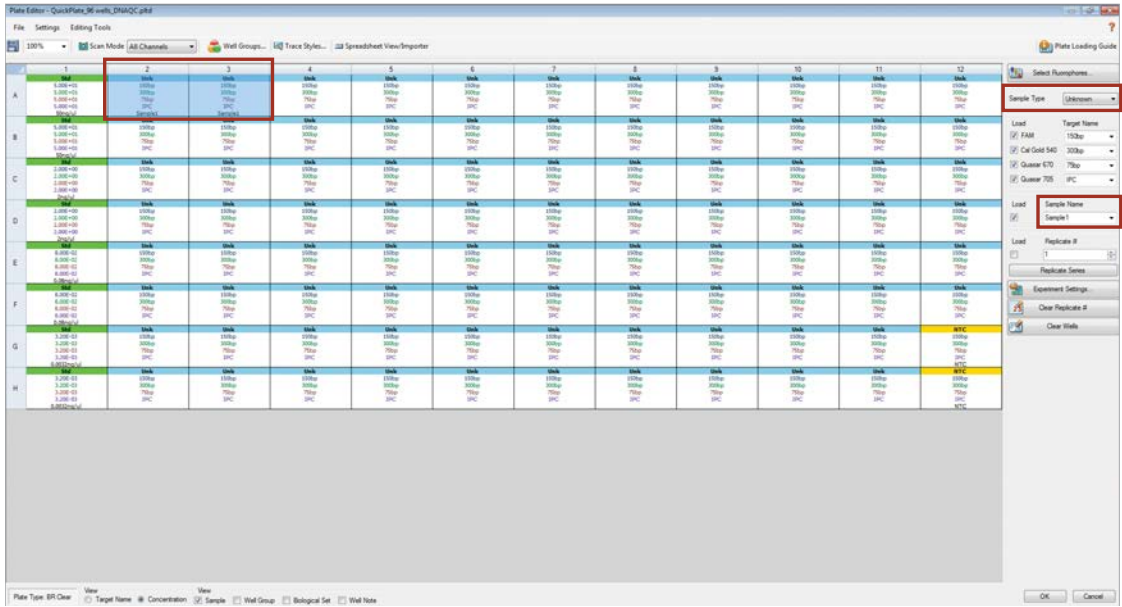

Figure 10. Assigning Sample(s) to selected wells.
5. For each test sample, highlight the wells containing the Test Sample, and assign the appropriate Sample Name. The Sample Type should be “Unknown” (Figure 10).